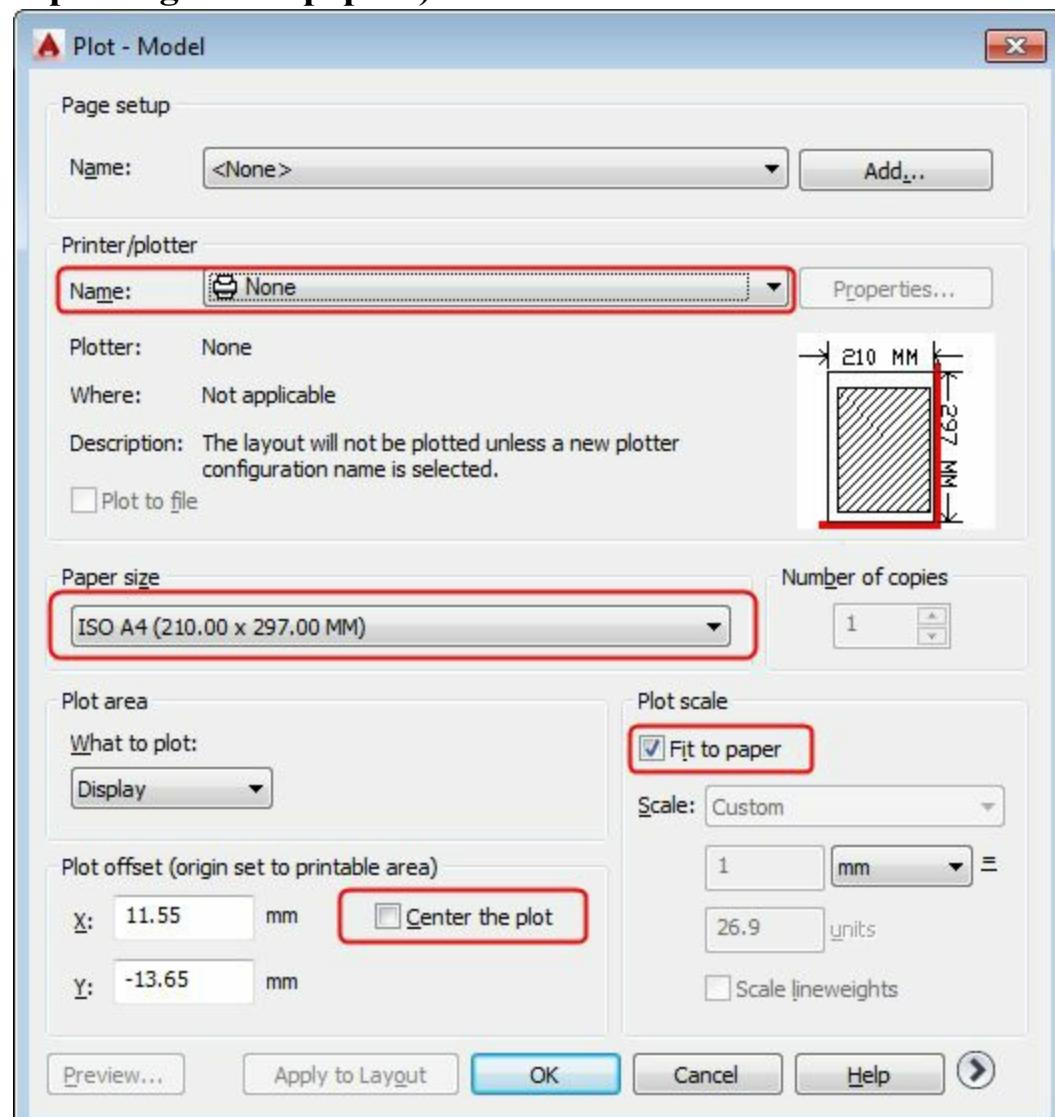

Figure-38. Plot dialog box
- Click on the **Plot** option from the **Print** options in the Application Manager. The **Plot** dialog box will be displayed for Model option; refer to Figure-38. (**Model** is the workspace in AutoCAD Electrical in which 3D view of model is displayed. **Layout/Paperspace** is the workspace where model is displayed in its paper print form. It is advised to shift to Layout/Paperspace before printing on the paper.).